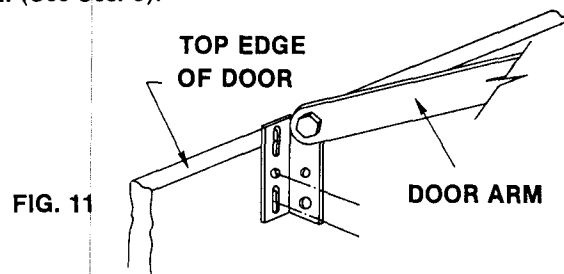

FIG. 11
STEP 5. After the rear of the operator is suspended, remove the door support and close the door. Remove the 1/4" x 2" carriage bolt and nut that was used to temporarily hold the front end of the rail to the bracket and secure with a 5/16" x 1" bolt and lock nut. Attach the straight portion of the door arm to the carrier by means of the 3/8" x 1" bolt and self locking nut already on the carrier. Assemble the angled portion of the door arm to the door bracket with a 3/8" x 1" bolt and self locking nut from the hardware bag. This connection should be made to the top round hole on the door bracket with the door arm on the **INSIDE** of the angle. (See Fig. 11). Next, connect the two sections of the arm together with three holes overlapping using two 5/16" x 1" bolts. (Make the nuts only finger tight at this time).
STEP 6. Release the carrier for manual operation of the door. Swing the door arm and door bracket up and forward until the door bracket rests against the inside surface of the door with the arm attachment point close to the top edge of the door (See Fig. 11). Note the position of the outer slide of the carrier on the rail and make a mark for later reference. Prepare the operator for electrical operation. (See Sec. 5).